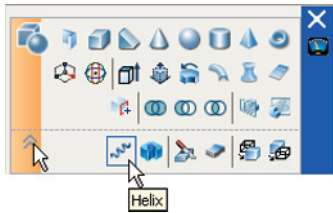

Fig. 15.33 The **Helix** tool icon in the extension of the **3D Make** control panel
The **Helix** tool can be called with a *click* on its tool icon in the extension of the **3D Make** control panel (Fig. 15.33).
2. Call the **Helix** tool from the **3D Make** control panel (Fig. 15.33) or from the **Modeling** toolbar. The command line shows: